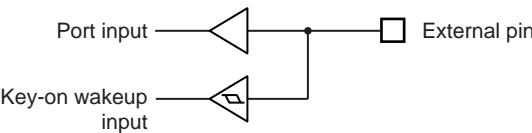

Figure 14-2 Key-on Wakeup Input and Port Input
- Note 3: The input circuit of Key-on Wakeup input and Port input is separated. As each input voltage threshold value is different. Therefore, a value comes from port input before STOP mode start may be different from a value which is detected by Key-on Wakeup input (Figure 14-2).